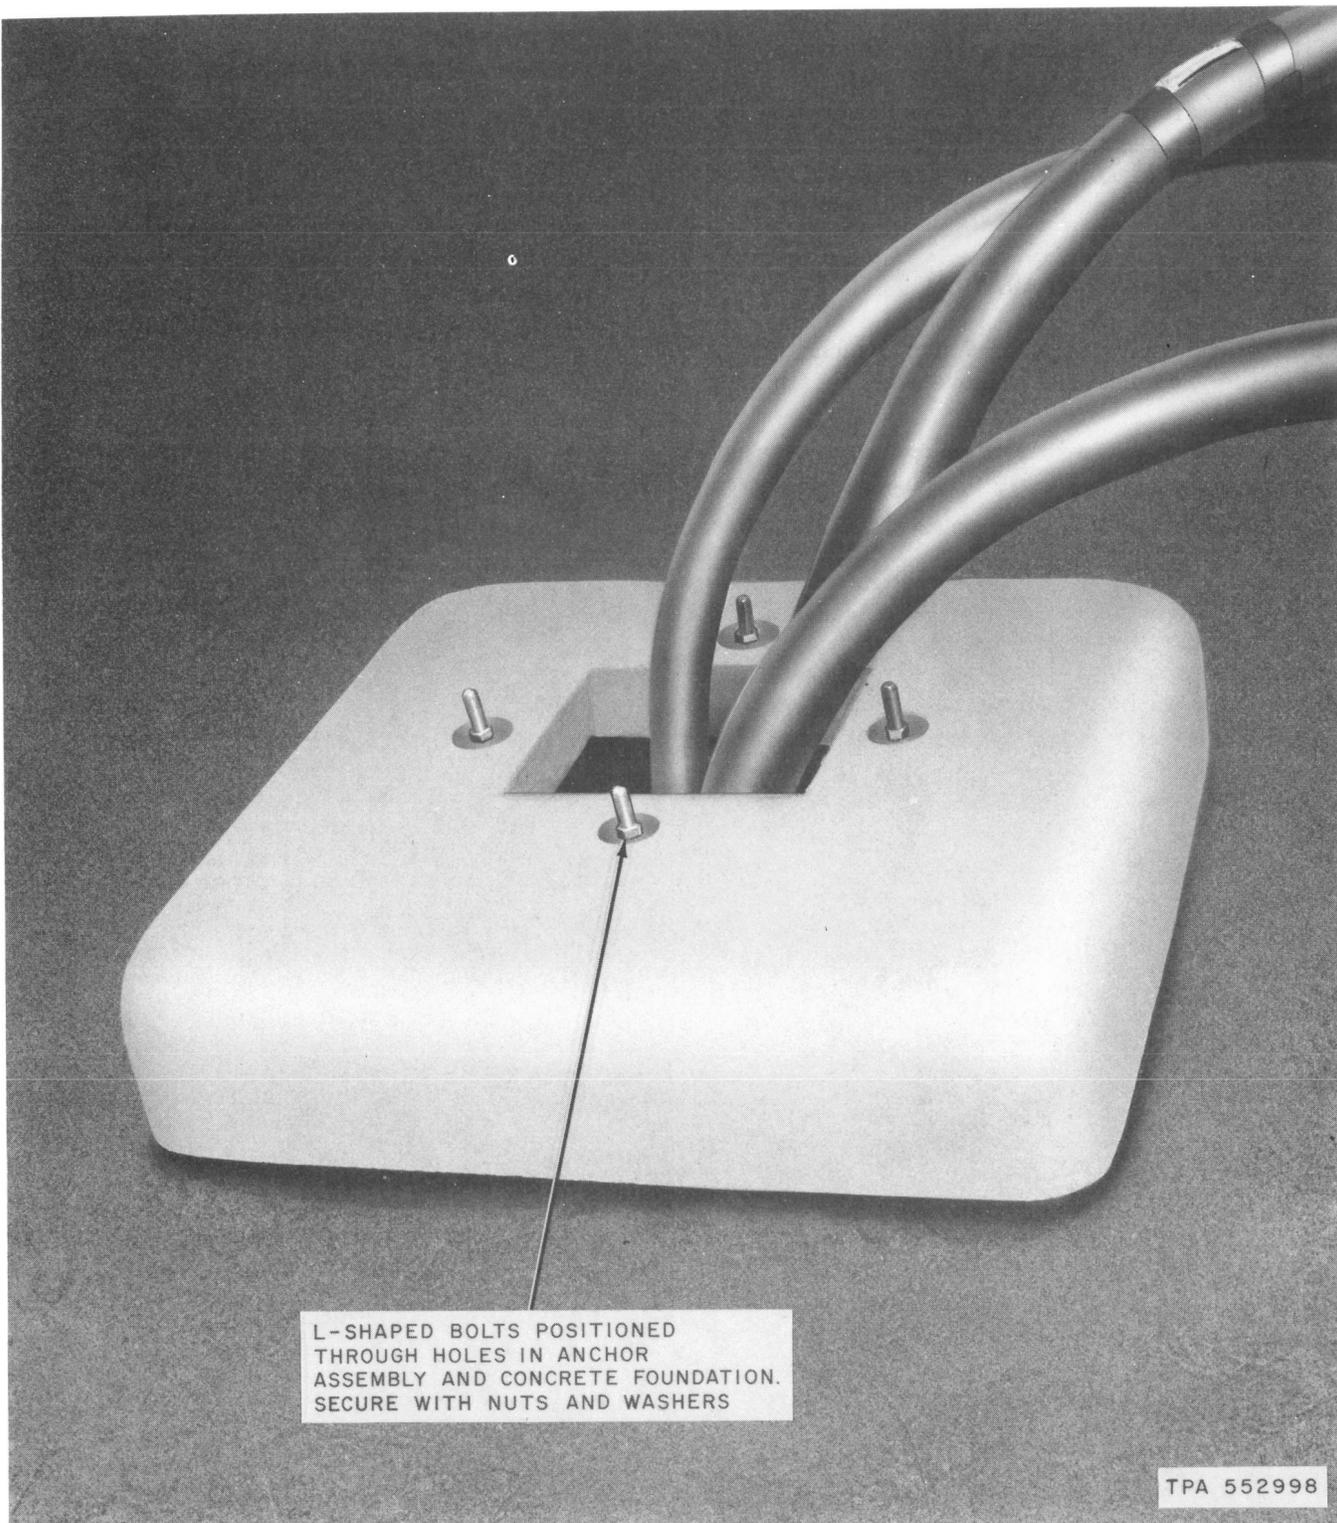

Fig. 6—Positioned Concrete Foundation
4.07 Lower the concrete foundation on top of the anchor (Fig. 6), assure that holes in top of anchor and holes in concrete foundation are in alignment. From underneath the anchor, position